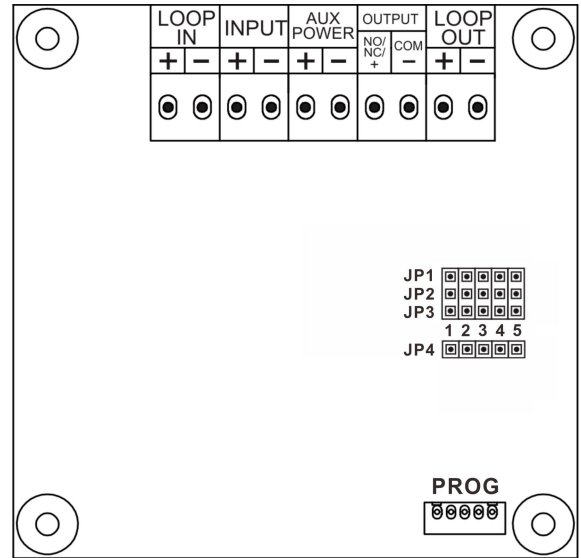

Figure 3.
**Mode selection:** The input and output modes are independent of each other. Different modes can be selected through the pin header. The mode selection is shown in the following table and figure 3.